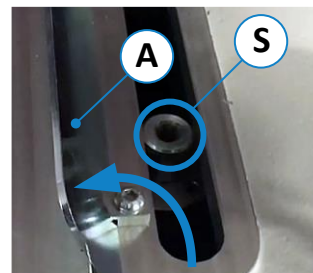

Figure 32: Clamping screws
Type 302 → Fit the clamping screws (⇒ Figure 32) and tighten both quick-release levers (3) and (6) to fix the fence in place.
- Only loosen (do not remove!) the quick-release levers (3) and (6).
- Fold up the two cover plates (A) to the left and right of the fence (see ⇒ Figure 32).
- Then remove the two clamping screws (S) (unscrew completely).
- Fold up the two cover plates (A) on the left and right side of the fence (see ⇒ Figure 32).
- Then remove the two clamping screws (S). Unscrew them completely.